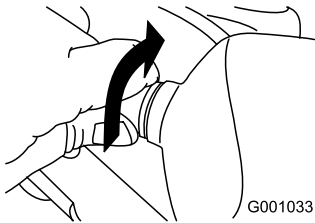

Figure 64
2. Turn the base of the bulb counterclockwise until it stops (Figure 64).